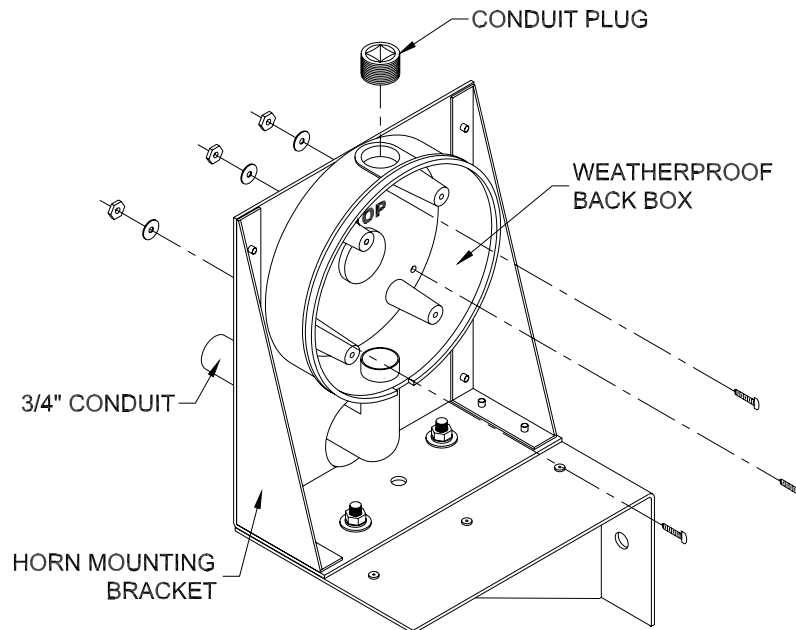

Figure 6 Back Box Mounting Points
10. Attach the weatherproof back box to the mounting bracket using the provided 8-32 x 1/2" Phillips head machine screws, #8 split-lock washers, and 8-32 hex nuts as shown in figure 6.